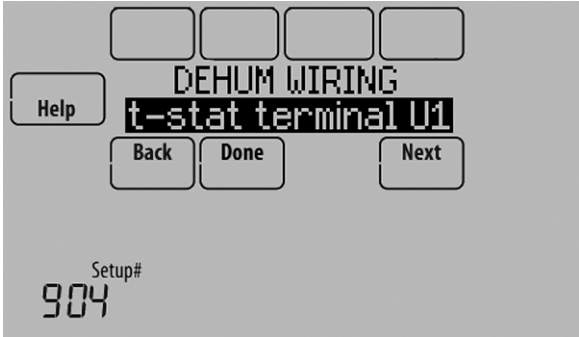

Fig. 219.
- 4. Select the terminals wired to the Dehumidifier. See Fig. 219.